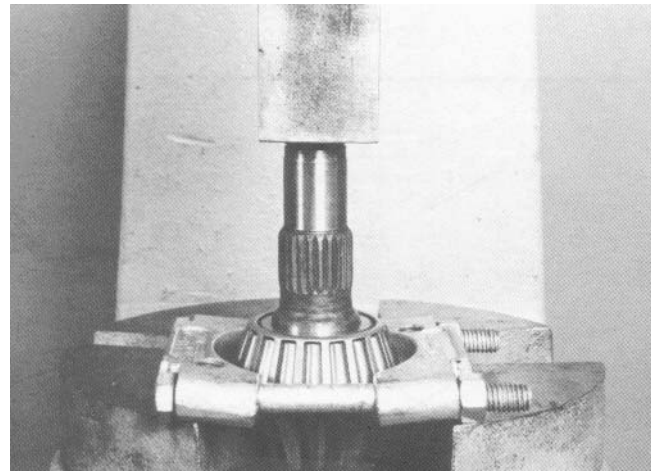

Figure 34
15. Clamp the inner pinion bearing with a universal bearing remover (Fig. 34). Position the unit in a press and carefully push the drive pinion out of the bearing.